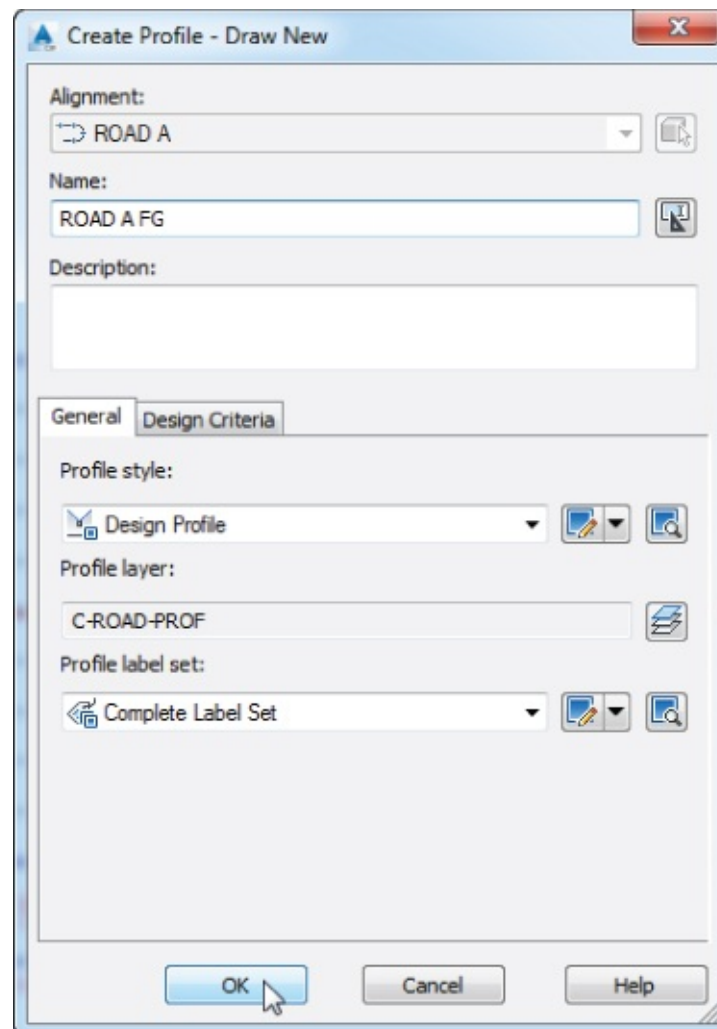

Figure 7.14 The General tab of the Create Profile – Draw New dialog
5. On the General tab, set Profile Style to Design Profile and Profile Label Set to Complete Label Set, as shown in Figure 7.14.